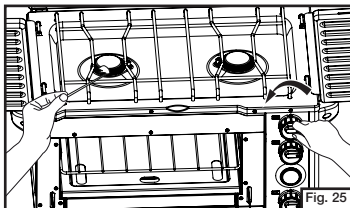

Fig. 25
- Hold lighted match near burner, push control knob and turn in counterclockwise direction open burner valve. (Fig. 25, 26, 27)